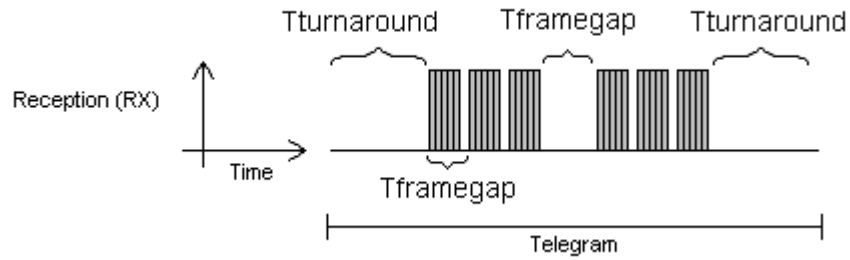

Figure 2.3: BACnet data reception
Reception (RX): The maximum time between bytes ($T_{framegap}$) is of 20-bit times, and the minimum time between frames ($T_{turnaround}$) after the last byte stop bit is of 40-bit times, according to the Figure 2.3.